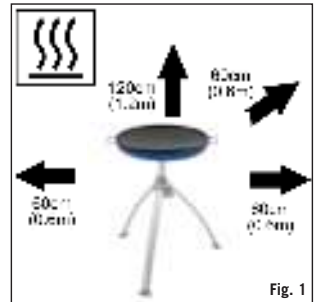

Fig. 1
- Do not cover up or change the burner pan (F) air holes on the base plate, as it will influence the flow of air to the stem air holes located inside the tripod housing (J). This, in turn, will affect the performance of the product and may lead to an unstable flame
- Ensure the appliance is used away from flammable materials. Minimum safe distances are: Above the appliance 1.2m. At the rear and sides 600mm. (See Fig.1)
- In the event of light back (where the flame burns back and ignites inside the burner or venturi housing), immediately turn off the gas supply by firstly closing the control valve on the gas container and then the appliance valve (M). After the flame is extinguished, remove the regulator and check the condition of the seal; replace the seal if in doubt. Re-light the appliance as described in Section 7 below. Should the flame persistently light back, return the product to your authorised CADAC repair agent.